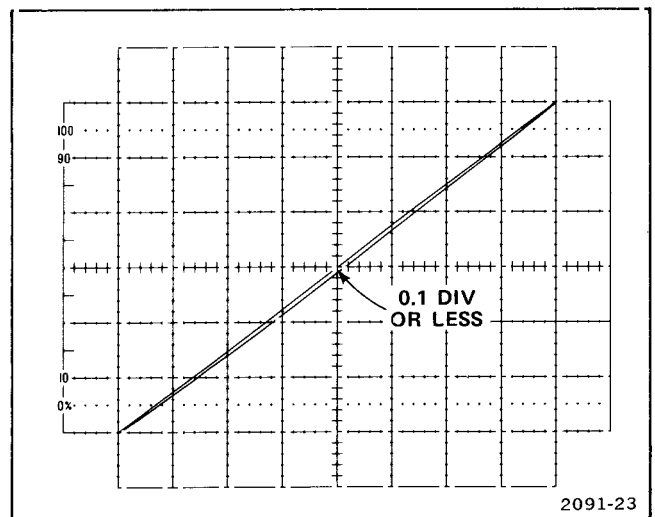

Figure 6-3. Typical horizontal and vertical phase difference display.
c. Set the sine-wave generator amplitude and the 607 Position controls for an 8-division diagonal display as shown in Figure 6-3.
✓ e. CHECK—That the diameter of the displayed ellipse measured vertically at the center of the graticule is 0.1 division or less (see Fig. 6-3). If necessary, adjust C470 (Phasing) to reduce phase shift.